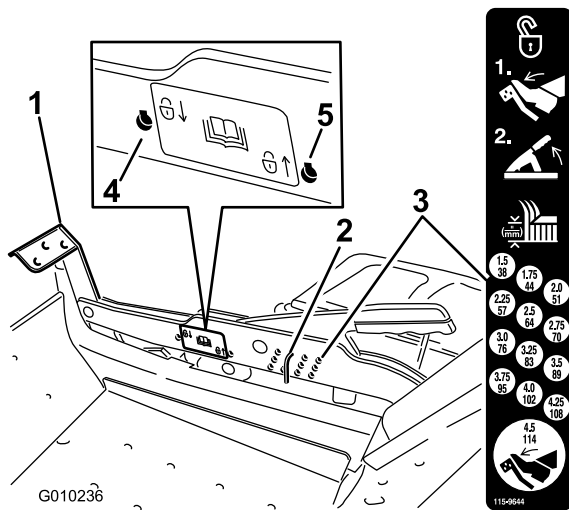

Figure 24
1. Push on the deck lift pedal with your foot and raise the mower deck to the transport position (also the 4-1/2 inch (114 mm) cutting height position) (Figure 24).
2. To adjust, remove the pin from the height-of-cut bracket (Figure 24).
3. Select a hole in the height-of-cut system corresponding to the height-of-cut desired and, insert the pin (Figure 24).
1. Push on the deck lift pedal with your foot and raise the mower deck to the transport position (also the 4.5 inch (114 mm) cutting height position) (Figure 24).
2. Remove the pin from the height-of-cut bracket (Figure 24).
3. Select a hole on the lock decal and insert the pin (Figure 24).